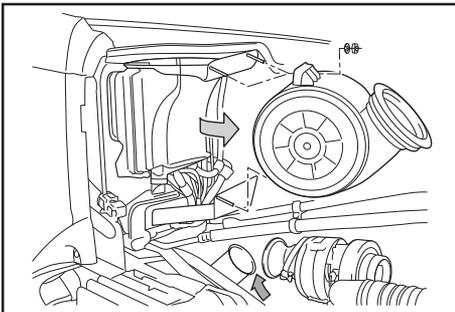

Fig. 8
1. Remove air filter enclosure and exhaust downstream of the turbocharger (See Fig. 8).